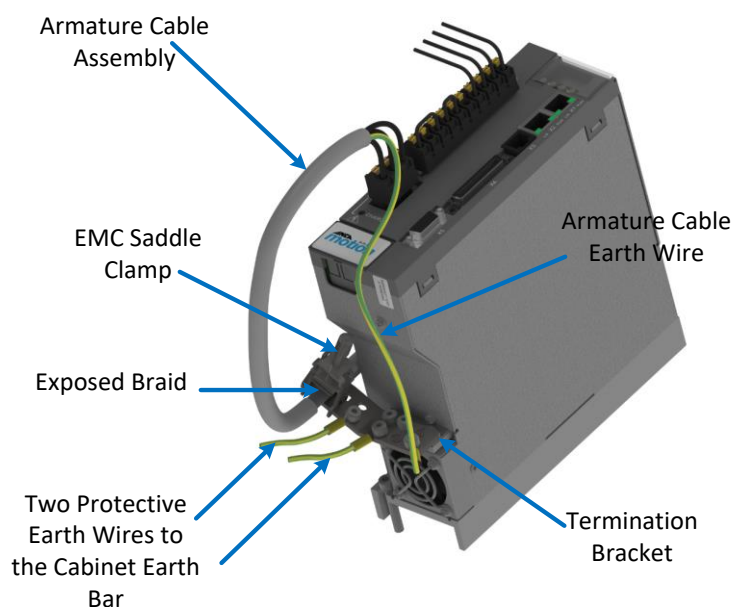
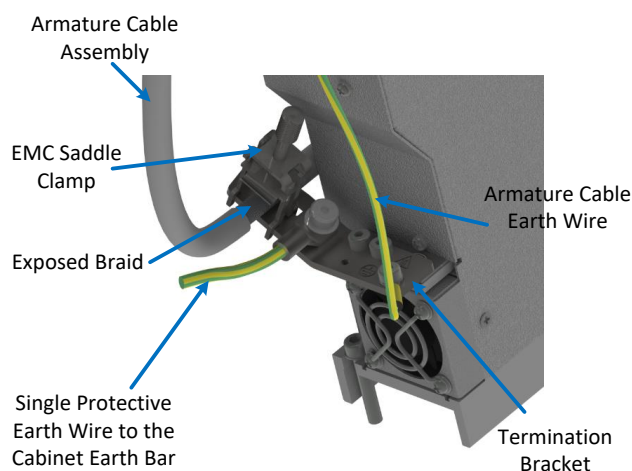

Figure 6-20 D2109 Armature Cable Shield Connection with Two PE Wires
Figure 6-21 D2109 Armature Cable Shield Connection with One PE Wire
- The position of the exposed braid is to coincide with the EMC Saddle Clamp and the metal bracket to provide sufficient contact for termination (see Figure 6-20 and Figure 6-21).
- Ensure that the armature cable earth wire is connected to an M4 ring lug using one M4 screw from the Armature Termination Bracket assembly kit and connect to the bracket as shown in Figure 6-20 and Figure 6-21. The maximum tightening torque is 1.5 Nm.
- The Armature Termination Bracket has been designed to allow the Protective Earth (PE) wires to be connected in two ways:
- c) Connection for two PE wires less than 10mm2 Cu by using two M4 screws (see Figure 6-20). The maximum tightening torque is 1.5 Nm.
- d) A single PE wire if the conductor size is greater than 10mm2 Cu by using a single M6 screw (see Figure 6-21). The maximum tightening torque is 3 Nm.